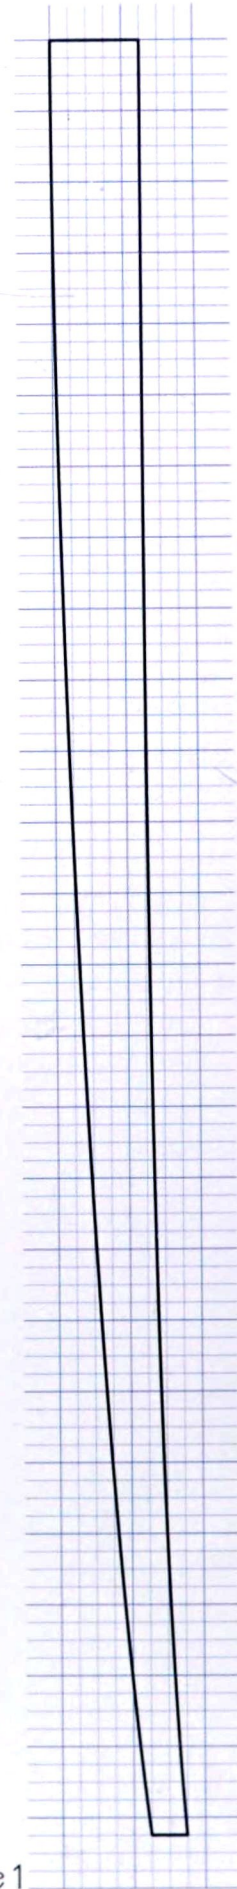

Figure 1
1. To make the legs (B), you must make a pattern for their shape. Refer to figure 1 and to Fair Curves and Patterns on page 12 to draw and cut the leg pattern